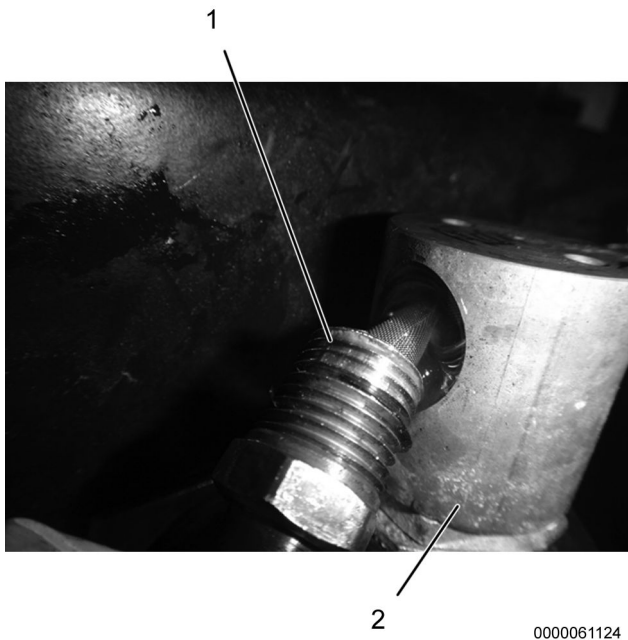

Figure 4. FCV.
8. Remove inlet fitting (Figure 4, Item 1) from FCV (Figure 4, Item 2).